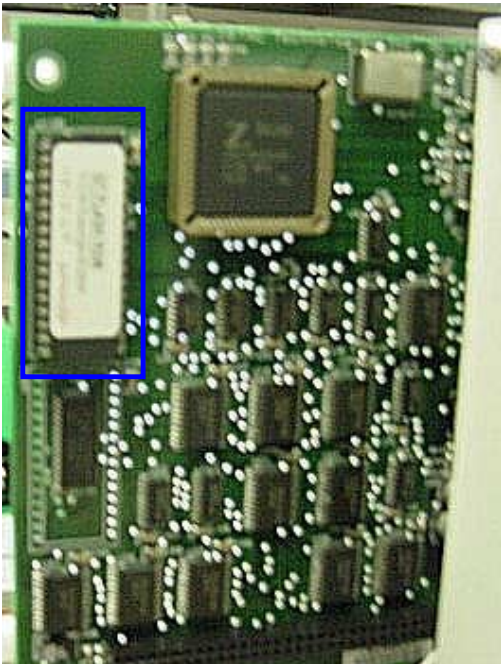

Figure 4. View of firmware chip on CPU board.
6. Remove the firmware chip on the CPU board (Figure 4).